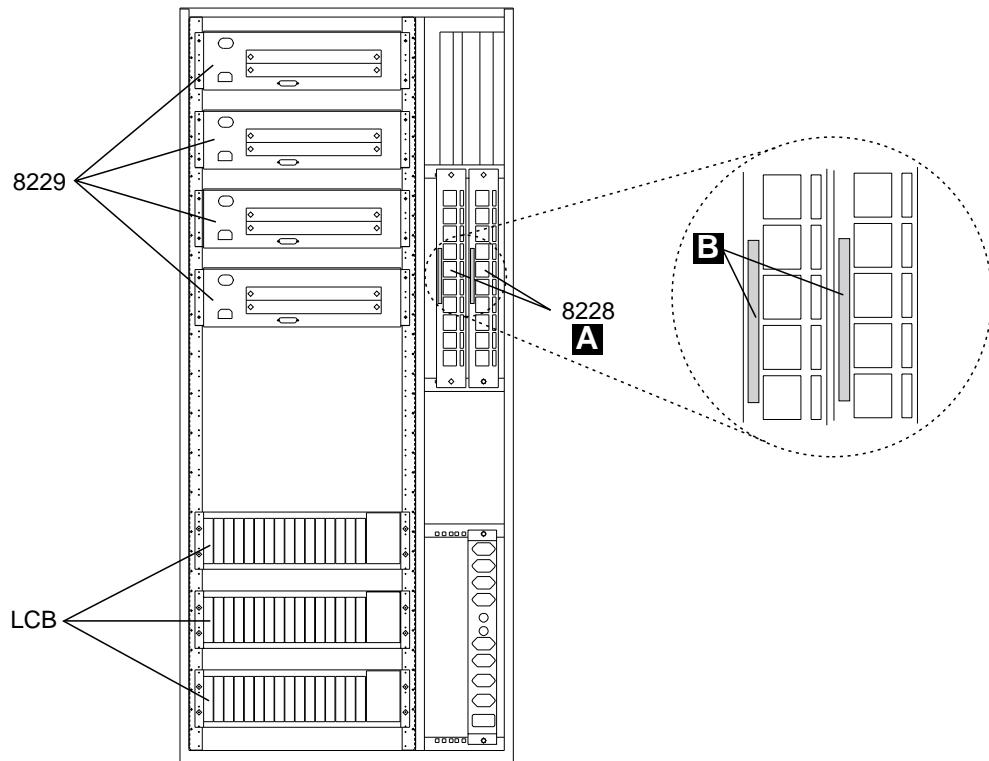

Figure 2-22. Installing Four Ethernet Bridge in the Controller Expansion-B (Rear View)
- h. ____ Refer to Figure 2-22, in this example two 8228s and four Ethernet bridges are installed (maximum configuration). Install vertically a 8228 **A** on the rear side of the controller expansion-B using two screws (PN 1621232) and two captive nuts (PN 58G5766). Using label **B** (PN 782964), identify the 8228s as Ethernet Bridge Access Unit-A and Ethernet Bridge Access Unit-B.